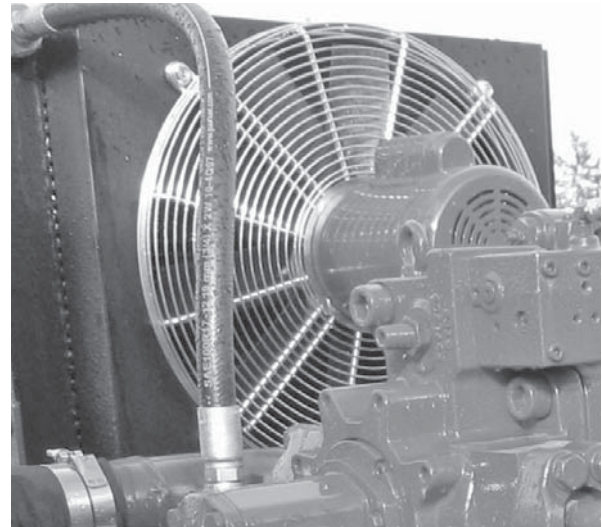
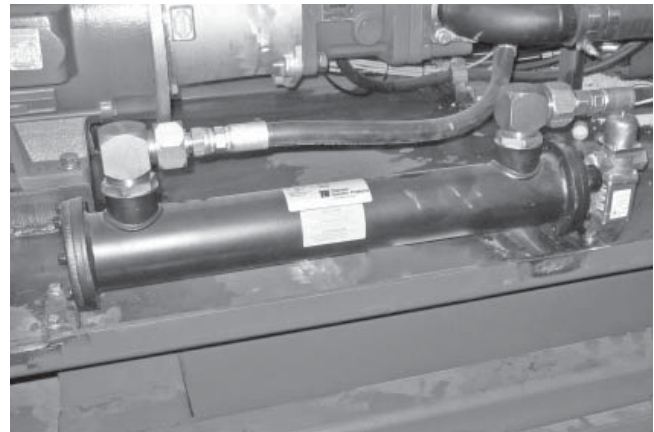

Figure 15 - Optional Oil Cooler
Figure 16 - Heat Exchanger
**Oil Cooler / Oil To Water Heat Exchanger** The Hydraulic system operate's more accurately when the oil viscosity is consistent. Since oil viscosity varies with temperature, your power unit is equipped with a Oil Cooler (see Figure 15) or Oil to Water Heat Exchanger (see Figure 16) to automatically maintain the oil temperature from 130°F to 160°F.